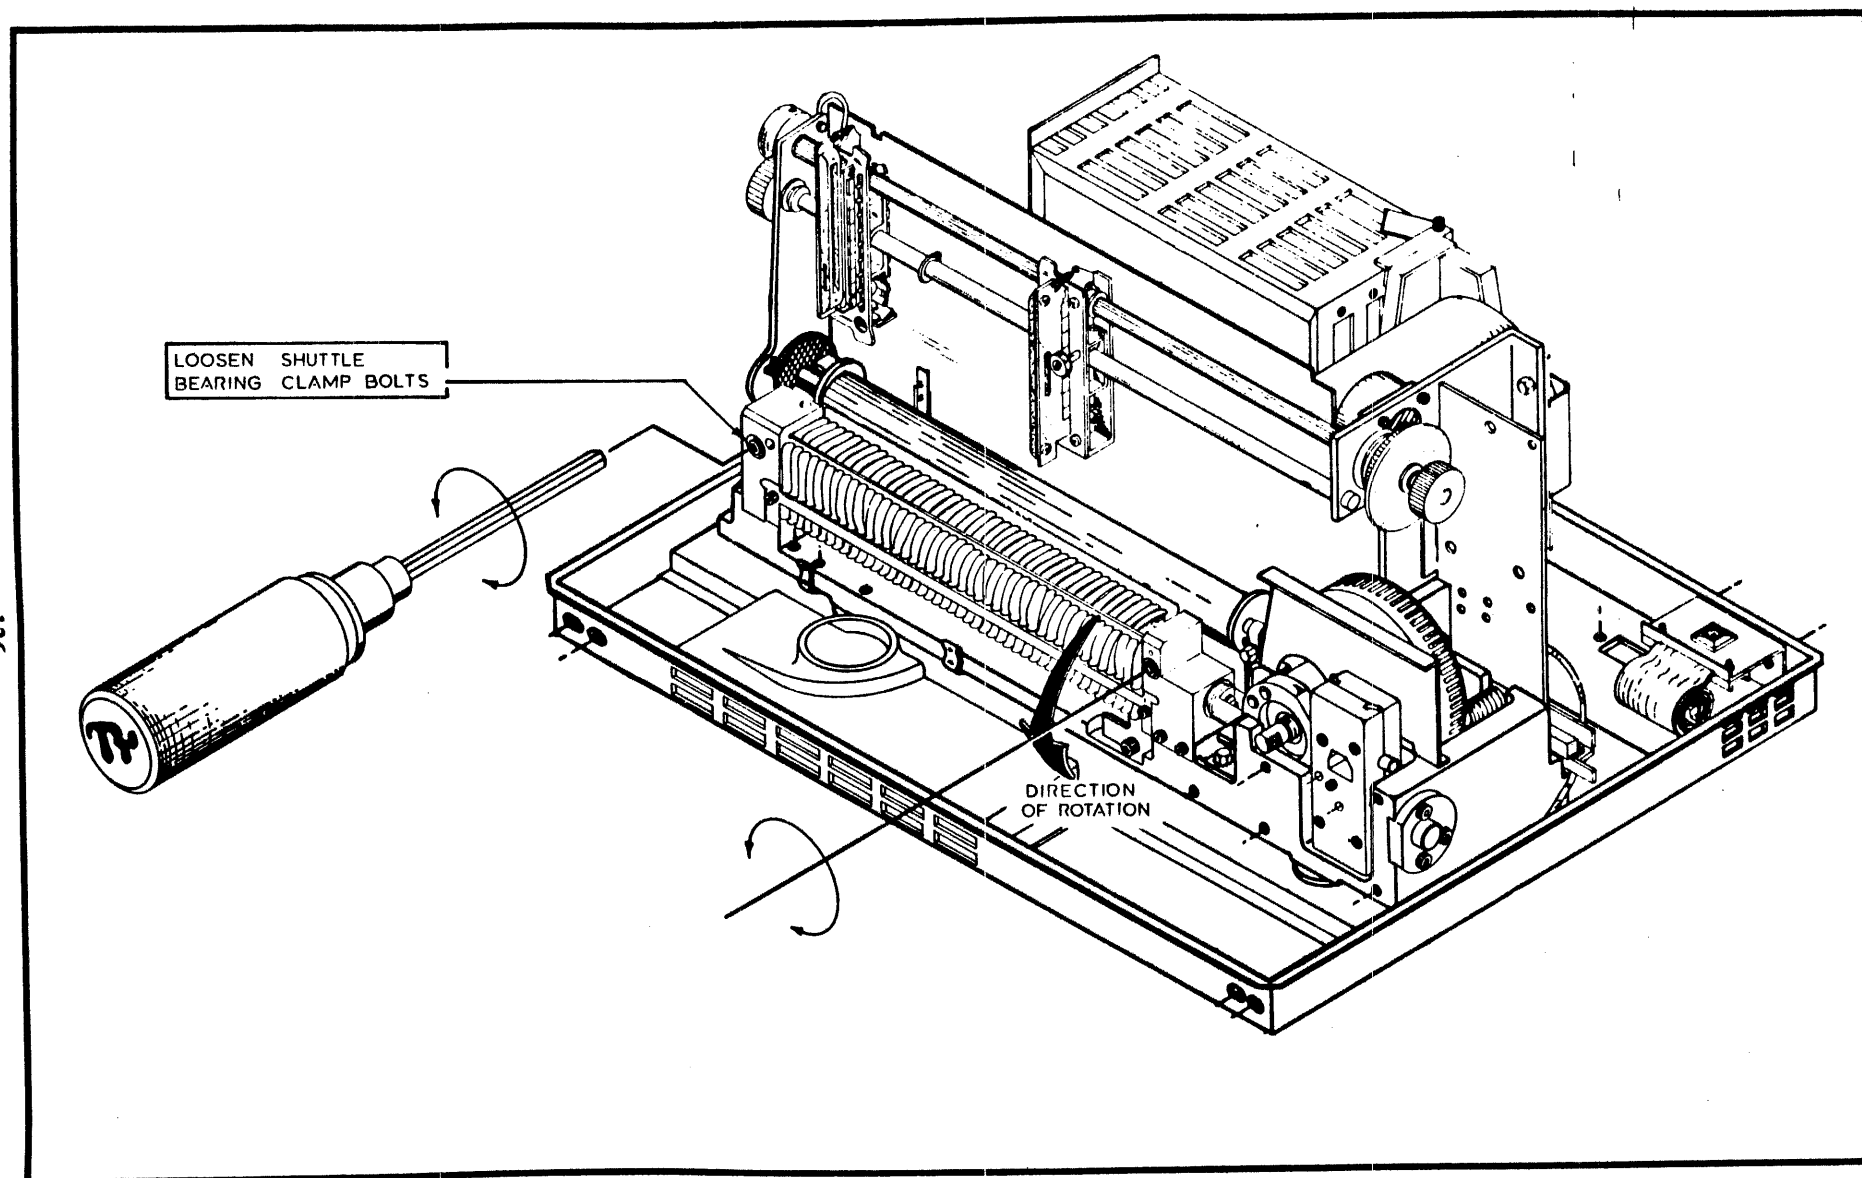

Figure 87 Hammer Bank Assembly Rotated to Service Position
It is necessary to rotate the hammer bank (**Figure 87**) toward the front of the printer in order to service it.
- e. Loosen the Allen head bearing clamp bolts about a quarter turn (**Figure 87**).